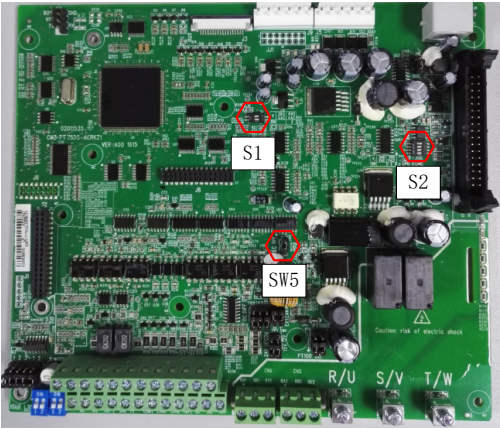

Figure 4-3 The DIP switch on the control board differs depending on the voltage system
- Er101, check the position of the SW5 jumper (see Figure 4-3) on the control board. The jumper must be in the "REC" or parameter DF-16 is set to 1.